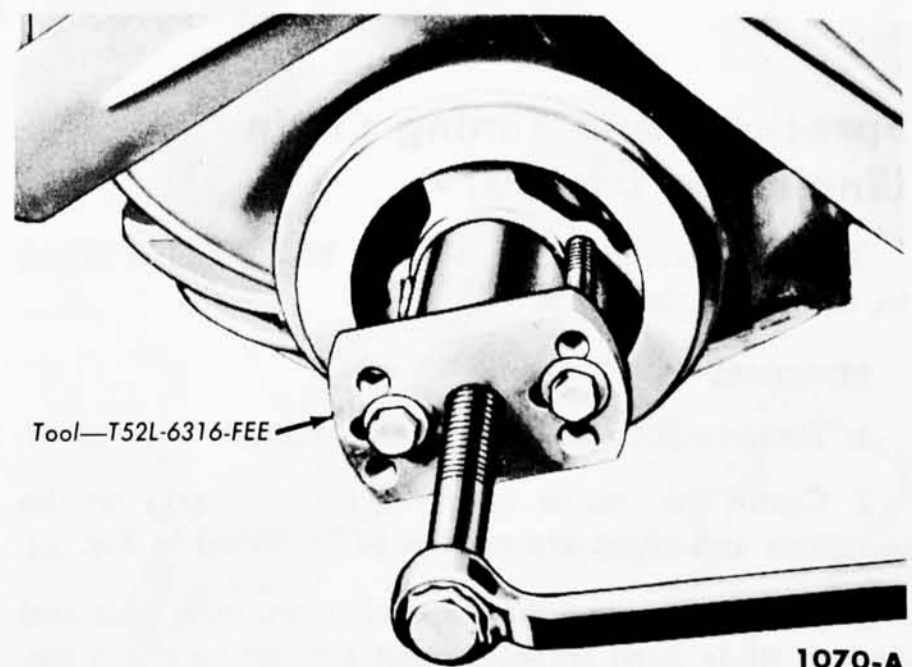

Fig. 19—Damper Removal
3. Remove the cap screw and washer from the end of the crankshaft, then remove the damper (Fig. 19).